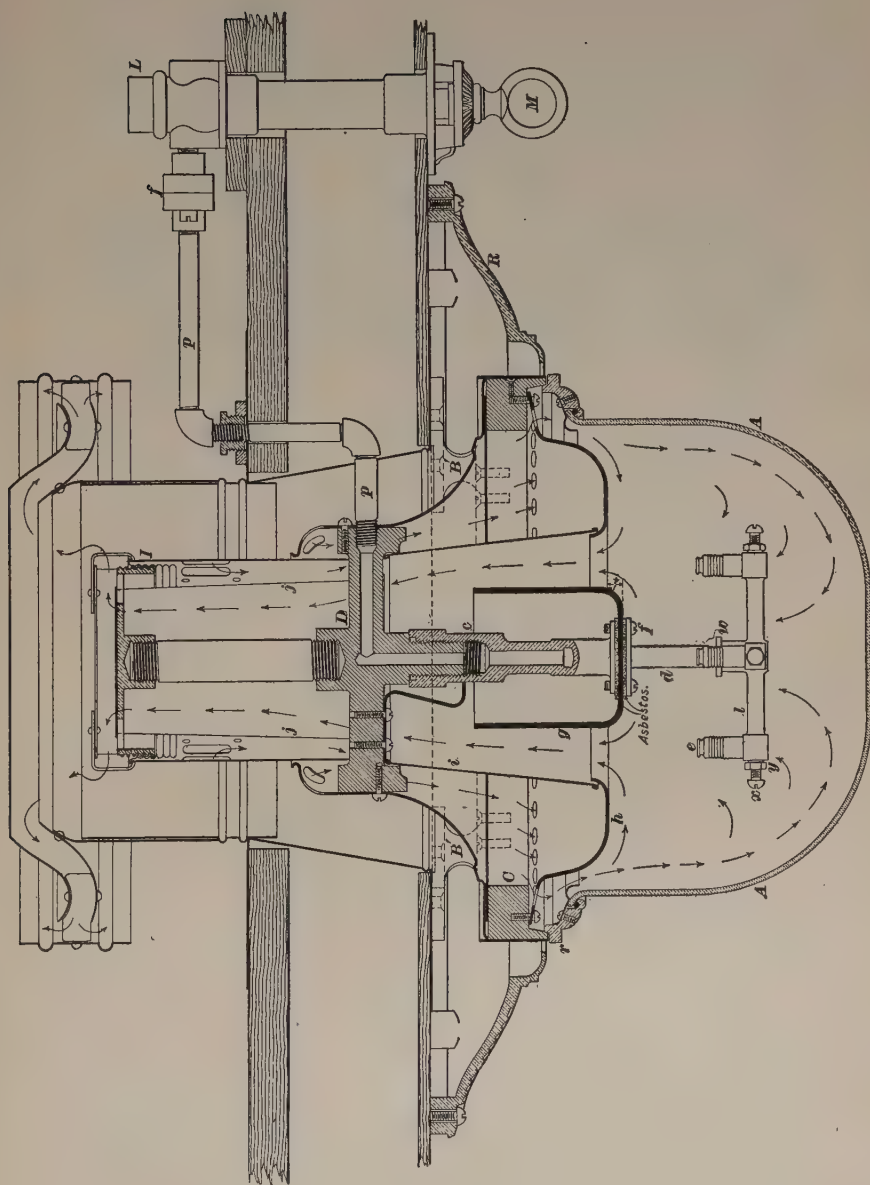

FIG. 11
15. All center lamps (various forms of which are shown in Figs. 10, 11, 12, and 13) are so arranged that the incoming air is heated considerably before coming in contact with the flame, the result being increased whiteness and steadiness of light. As seen in Fig. 10, air is admitted through openings in the chimney I ; passing downwards, it comes in contact with the side of flue j and so becomes heated. It then passes into the space between the dome B and the mica chimney i , where it is heated still more, the diaphragm P deflecting the air toward the chimney. It passes from the space between i and h out of the holes in the outer edge of h and so on into the bowl A . The tortuous course that the air thus takes serves to protect the flame from any irregular drafts. The gases of combustion thrown off by the flames pass through the space between g and i , up through the flue j , and out of the crown. The arrows in Fig. 11 show the path pursued by the incoming and outgoing air.